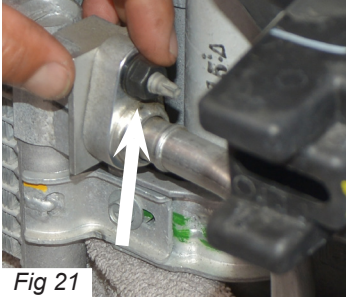

Fig 21
Step 16 On the drivers side of the PPE trans cooler replace the nut on the stud that secures the transmission line to the trans cooler, tighten. Repeat this process on the passenger side of the transmission cooler. Fig 21/22